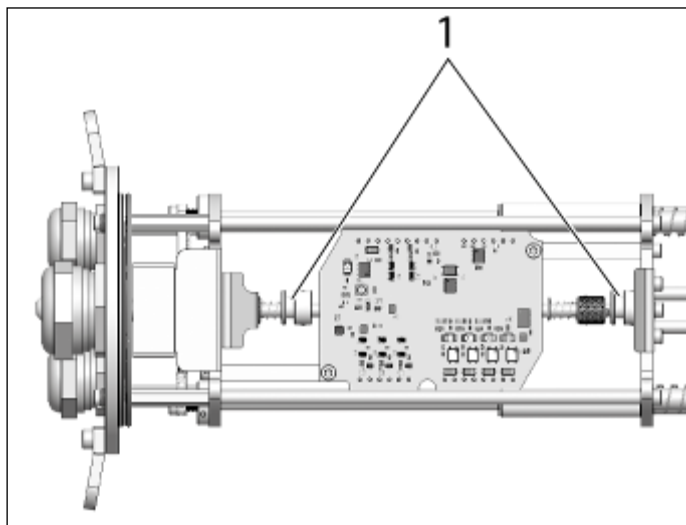
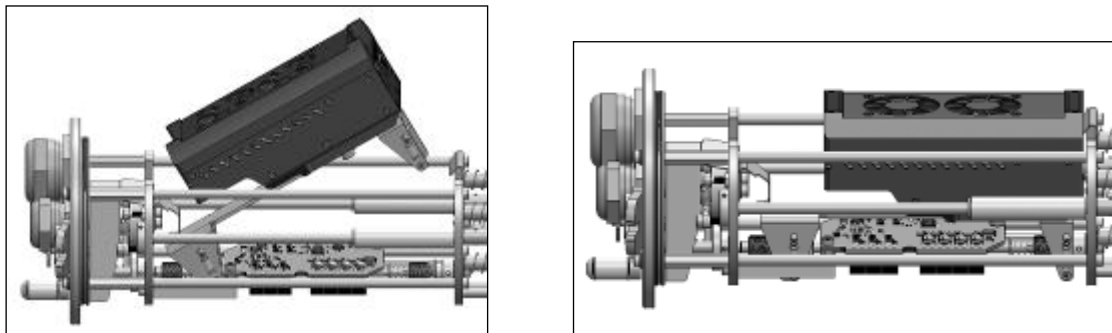

Figure 43: Notch to fix the PI NetBox (top view)
Figure 44: Fitting the PI NetBox into the chassis (right hand view)
At first push the fastening rail with the PI NetBox into the left notch (1) of the shaft. Afterwards into the right notch (1) (**Figure 43**) until it is engaged (**Figure 44**).